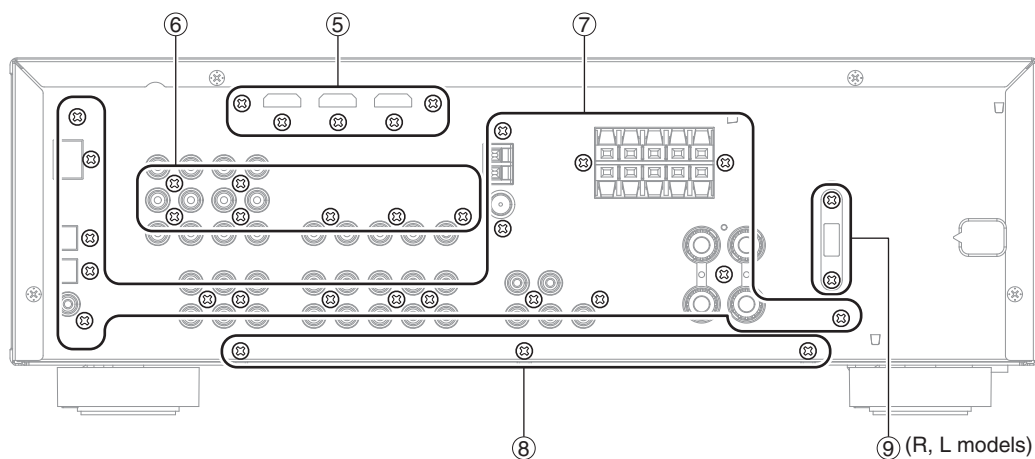

Fig. 3
- Remove 5 screws (⑤). (Fig. 3)
- Remove 7 screws (⑥). (Fig. 3)
- Remove 18 screws (⑦), 3 screws (⑧) and 2 screws (⑨) (R, L models). (Fig. 3)
- Remove 3 screws (⑧). (Fig. 3)